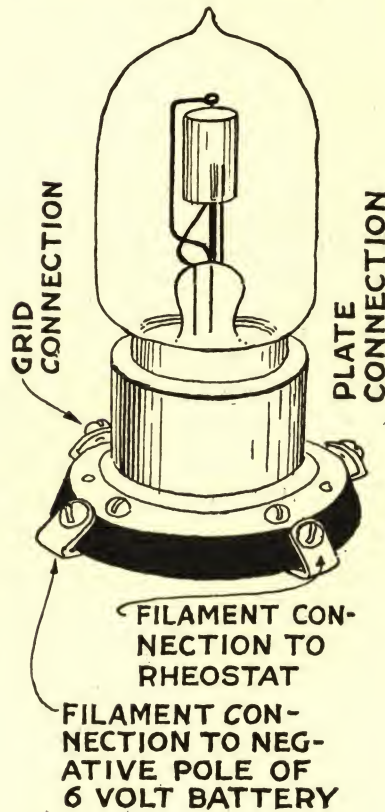

Fig. 13
**R**ECEIVING sets having a greater radius than the crystal detector type may be made by the use of the vacuum tube. The vacuum tube resembles a small electric light bulb. The parts making up the vacuum tube are shown in Fig. 13. There is a filament which lights up when connected with a battery, and the filament is enclosed in a glass tube which has been pumped out so that it contains a high vacuum.